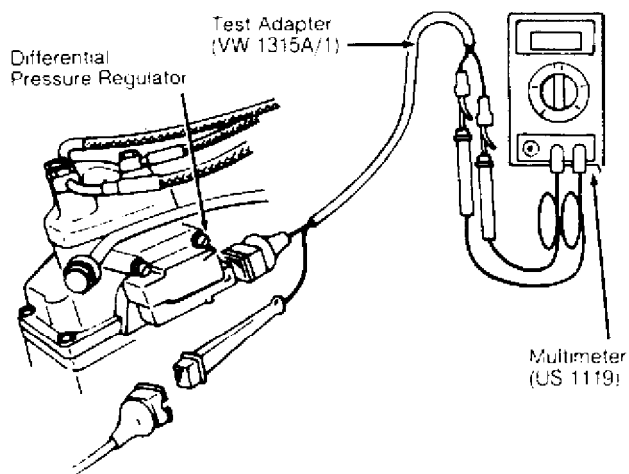

Fig. 3: Making Digital Multimeter Hook-Up
7) Remove C0 probe receptacle cap and connect C0 meter. Ensure fit is snug to prevent exhaust leaks. Connect Digital Multimeter (US 1119) with Adapter (VW 1315 A/1) to differential pressure regulator. See Fig. 3.